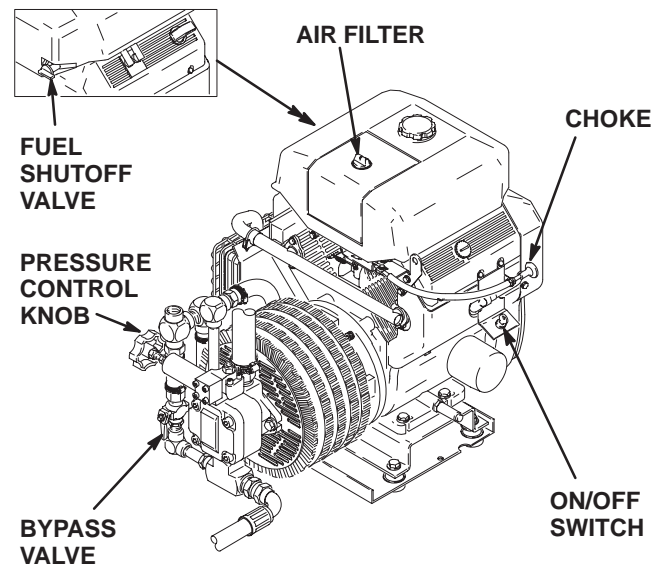

Fig 5
4. Turn the pressure control knob *counterclockwise* until all spring tension is relieved. You will be able to feel it. The sprayer is now set at the lowest pressure setting. Turning the knob further will remove it. Tighten the knob locknut to set. See Fig 5.
5. Open the bypass valve. The valve lever will be parallel to the body of the valve. See Fig 5.
6. Open the fuel shutoff valve by turning it to horizontal. See Fig 5.
7. Close the choke by pulling out on the choke head. See Fig 5.
8. Turn and hold the ignition key to START until you hear the engine "catch", then release the key to RUN. See Fig 5. If the engine does not start, open the choke a little (push in on head). If the engine floods, open the choke all the way and try again.
9. After the engine is warm, gradually open the choke lever (push choke head in completely) and close the bypass valve. See Fig 5.